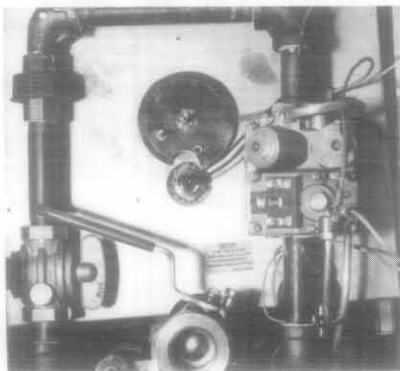

Fig. 2
- 4) Disconnect the thermostat wires from gas valve. See Figure 2.